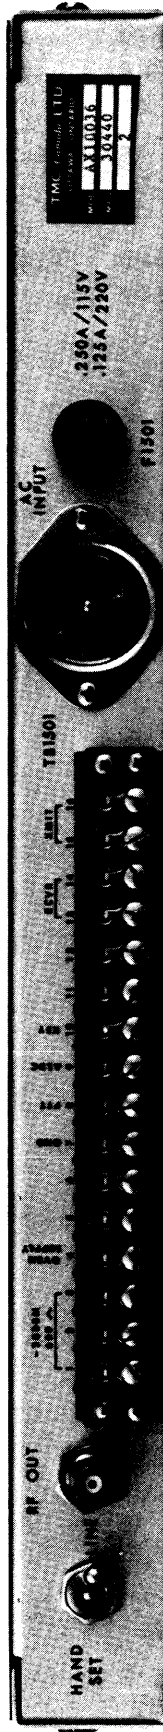

Figure 2-2. Rear Panel, STE-5
a. EXTERNAL.—The STE-5 is designed for mounting in a standard 19-inch rack, and has a protective cover on top. Most of the operator's controls are located on the front panel, and are described in section 3. There is also a jack on the front panel for connecting a handset. A terminal board mounted to the rear panel is provided for most input and output connections and a BNC connector is provided for connecting the RF output of the exciter to associated equipment with coaxial cable. In addition, the rear panel contains the power input connector, the line fuse, and a HANDSET/LINE switch. Figure 2-2 illustrates the rear panel components.
#### 2-4. ELECTRICAL INSTALLATION. (Refer to figure 2-2.)